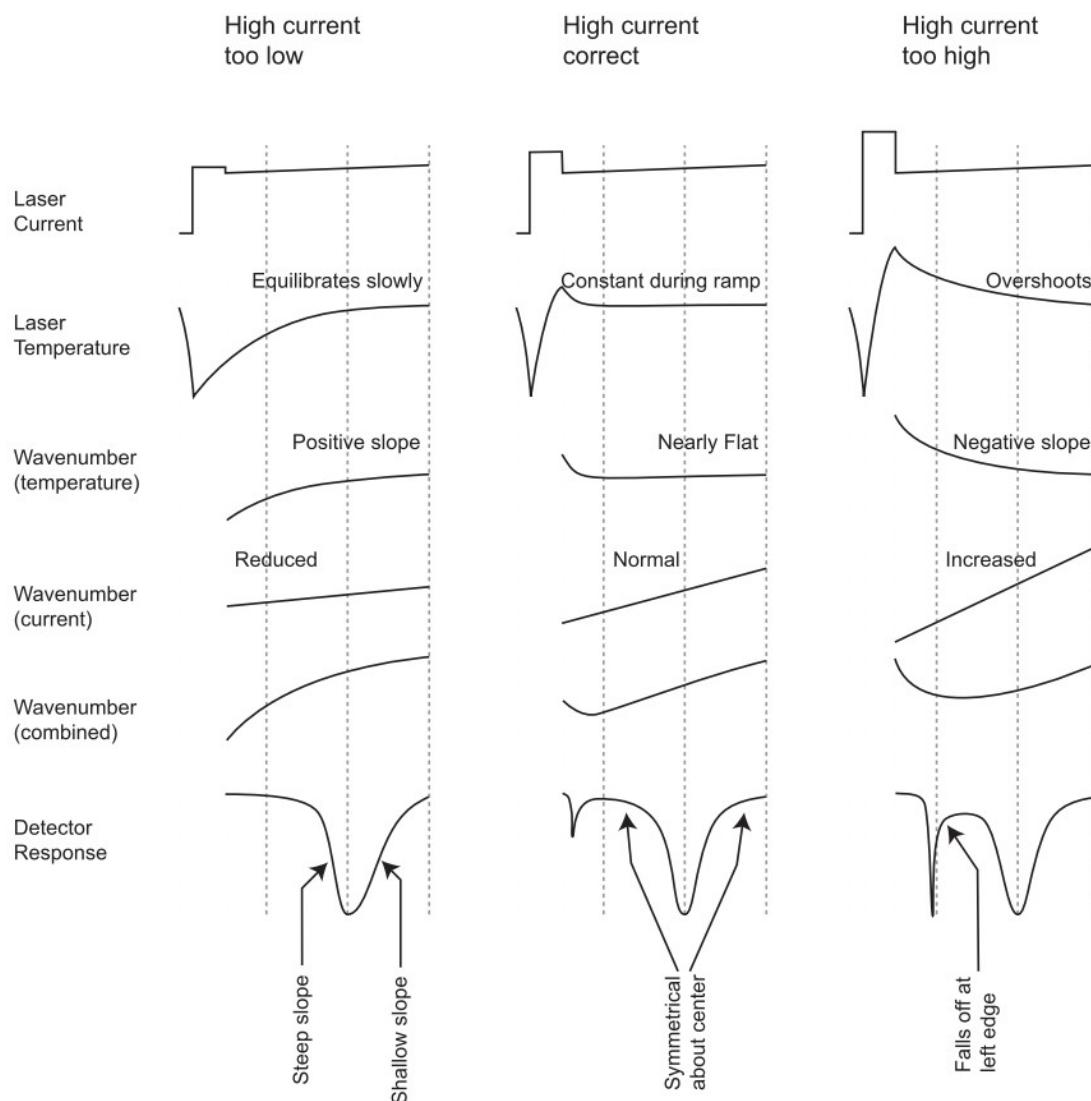
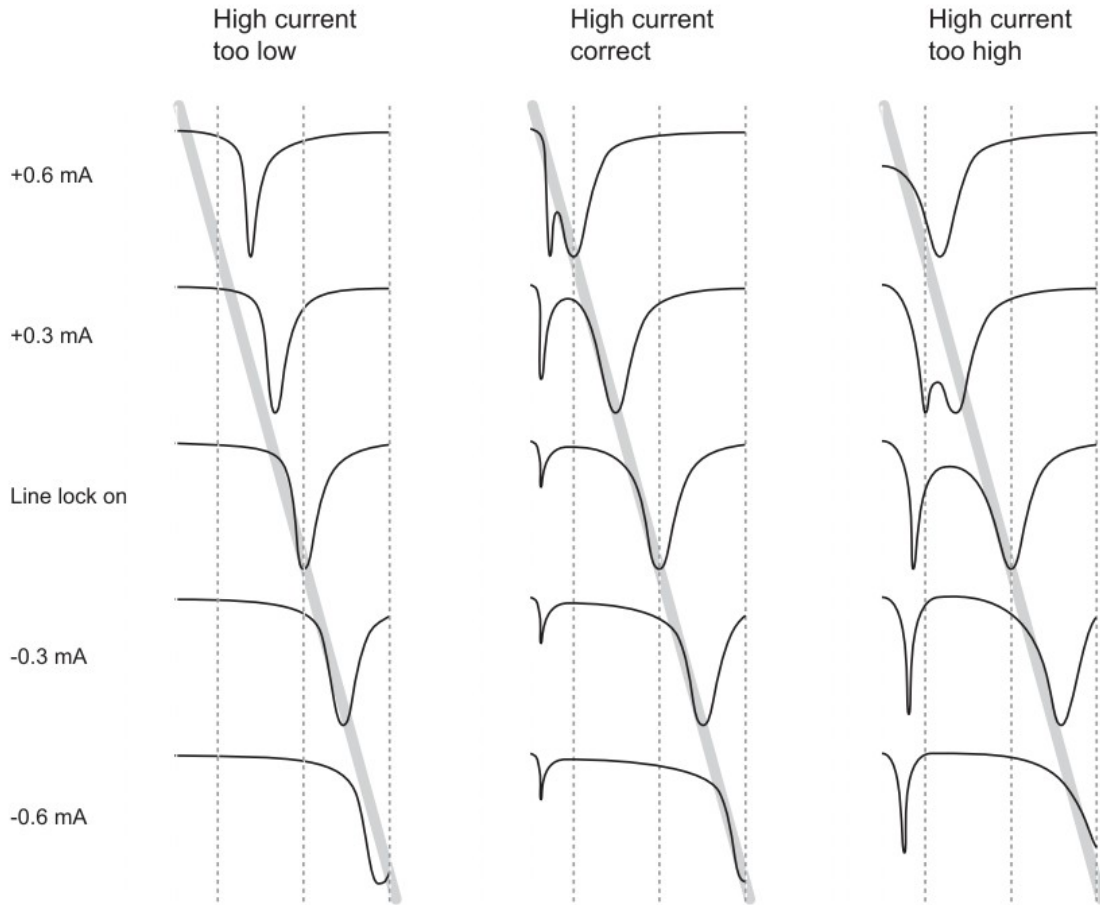

FIGURE C-6. Effects of temperature perturbation
FIGURE C-7. High current adjustment procedure
The laser cools slightly at the start of the spectral scan when it is turned off by reducing its current to the zero-current value, as discussed in Section 4.2.5, Laser Scan Sequence (p. 27). If the actual spectral scan started immediately thereafter, the laser temperature would rise during the entire spectral scan. The rise in temperature would be more rapid at first, but slow near the end of the scan as the temperature approached equilibrium. The change in temperature would change the laser's emission frequency, adding an undesired spectral modulation, as illustrated in the far left panel of FIGURE C-6. To minimize this problem, the laser current is increased above the DC current by an amount specified in the *High current offset* parameter. The duration of this high current pulse is determined by the laser *High current count* parameter. When these parameters are properly set, the heat from the increased current compensates for the heat lost when the current is reduced, stabilizing the laser temperature more quickly.
As shown in FIGURE C-6, improper high-current adjustment makes the absorption line appear asymmetrical. The goal of the high-current adjustment procedure is to make the absorption line symmetrical about its center.
A more objective method to evaluate this symmetry is to adjust the DC current to move the absorption line to the left and right of the center line. If the high current is adjusted properly, the absorption line will move the same distance left/right of center for the same change (\pm) in DC current. This is illustrated in FIGURE C-7. The left panel shows that with the high current too low, changing the DC current by $+0.6$ mA moves the absorption line only halfway to the left edge of the scan, but changing the DC current by -0.6 mA moves it all the way to the right edge of the scan. In the center panel, the absorption line moves symmetrically, all the way to the left and right edge of the spectral scan for the same (\pm) change in DC current.
12. Evaluate the results and iterate as needed using the steps below and referring to FIGURE C-7:
- If the high current is too high, the laser's frequency will overshoot the absorption line at the beginning of the spectral scan, quickly scan backwards through the absorption line, and then scan forward through the absorption line. This is visible in the reference detector display as a second narrow absorption line at the left edge of the spectral scan data. See FIGURE C-6 and FIGURE C-7. This is acceptable as long as
this “ghost” line is in the omitted part of the scan. But if the signal falls off at the left edge of the scan as illustrated in the lower right of FIGURE C-6, the high current must be reduced (even if the “counting steps” criterion indicates the high current is already too low).
- When incrementing the DC current, it may not be possible to move the absorption line to the left edge because the two absorption lines (the true line and its “ghost”) may merge just inside the left vertical dotted line (see FIGURE C-7, top right). This also indicates the high current is too high.